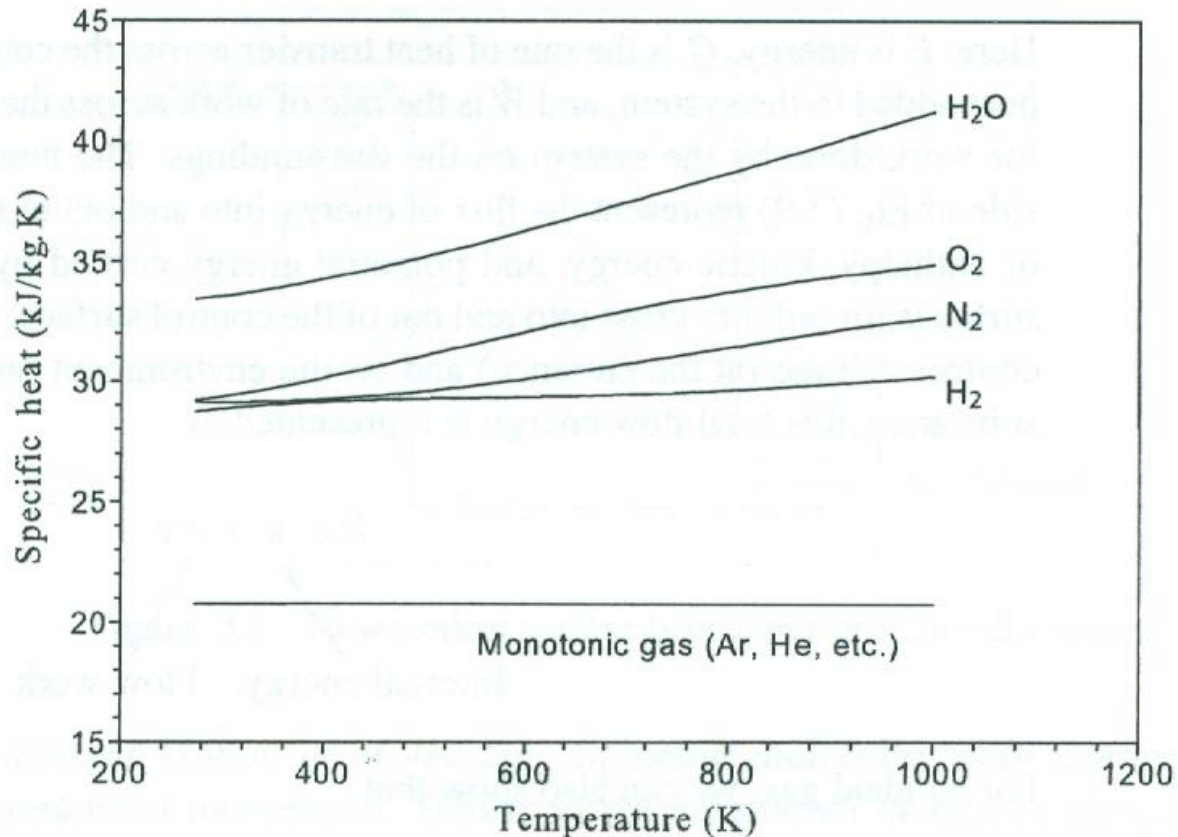

Figure 3.6 Specific heat as function of temperature for several species.
- As shown Fig. 3.6, average T should be chosen to minimize inaccuracies → acceptable in FC since they tend to operate over a narrow T range